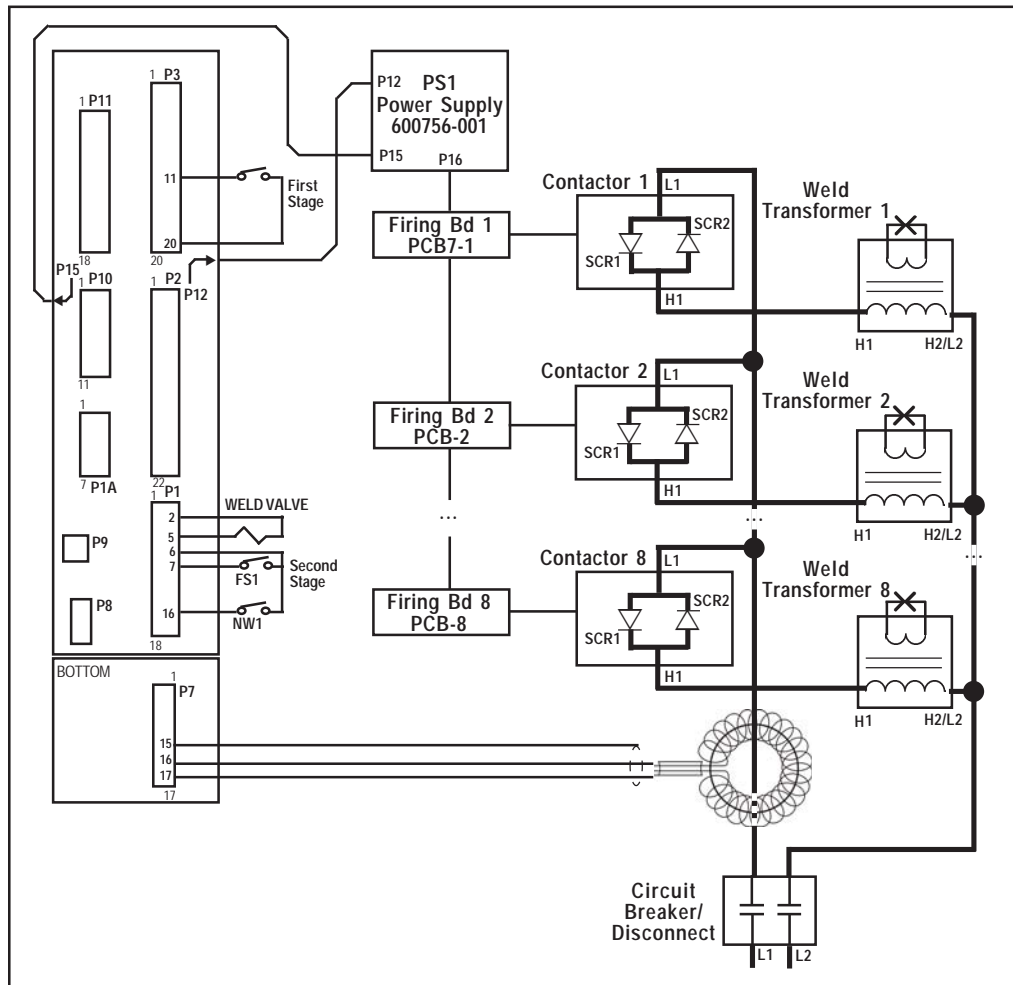

Figure 6-1. *Basic connections*
1. Make basic connections as shown in Figure 6-1. Additional connections (see Section 4.5.3) may be needed, depending on installation requirements, but connections shown are the most basic which are required in order to run equipment. For your convenience, many electrical and mechanical connections have been performed at the factory. Refer to Wiring Diagram for other connections.
5. Place the control in No Weld. Use either RPP2's **WELD/NO WELD** feature (see Section 5.1) or External Weld/No Weld Switch connected to Terminal Strip between NW1 and FSC (see Figure 6-1).